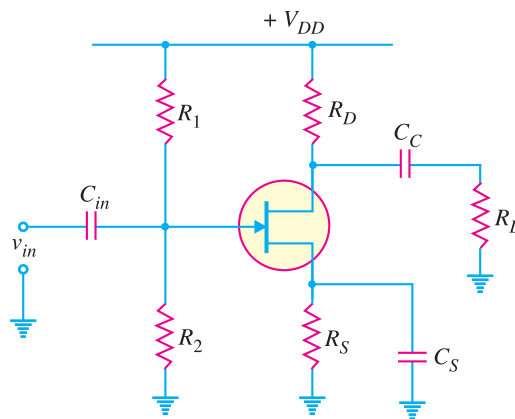
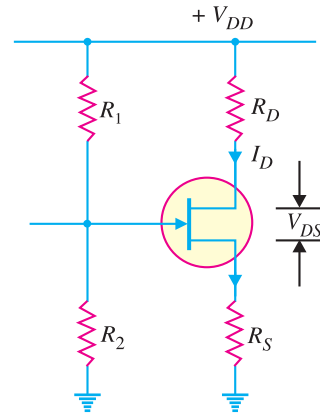
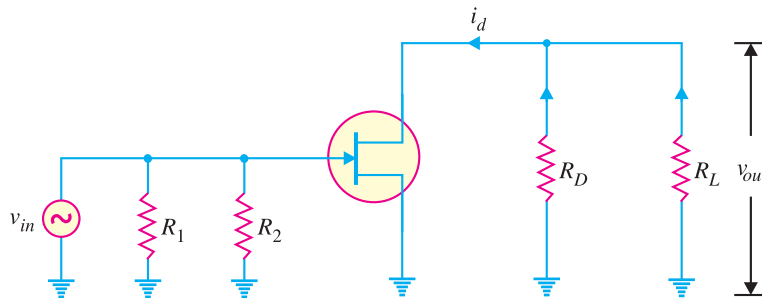

Fig. 19.30
Fig. 19.31
Fig. 19.32
We shall split the *JFET* amplifier shown in Fig. 19.30 into d.c. and a.c. equivalent circuits. Note that biasing is provided by voltage-divider circuit.
Applying these two steps to the *JFET* amplifier circuit shown in Fig. 19.30, we get the d.c. equivalent circuit shown in Fig. 19.31. We can easily calculate the d.c. currents and voltages from this circuit.
Applying these two steps to the circuit shown in Fig. 19.30, we get the a.c. **equivalent circuit* shown in Fig. 19.32. We can easily calculate the a.c. currents and voltages from this circuit.
* Note that one end of R_1 and R_2 is connected to one point (See Fig. 19.32) and the other end of R_1 and R_2 is connected to ground. Therefore, $R_1 \parallel R_2$. Similar is the case with R_D and R_L so that $R_D \parallel R_L$.